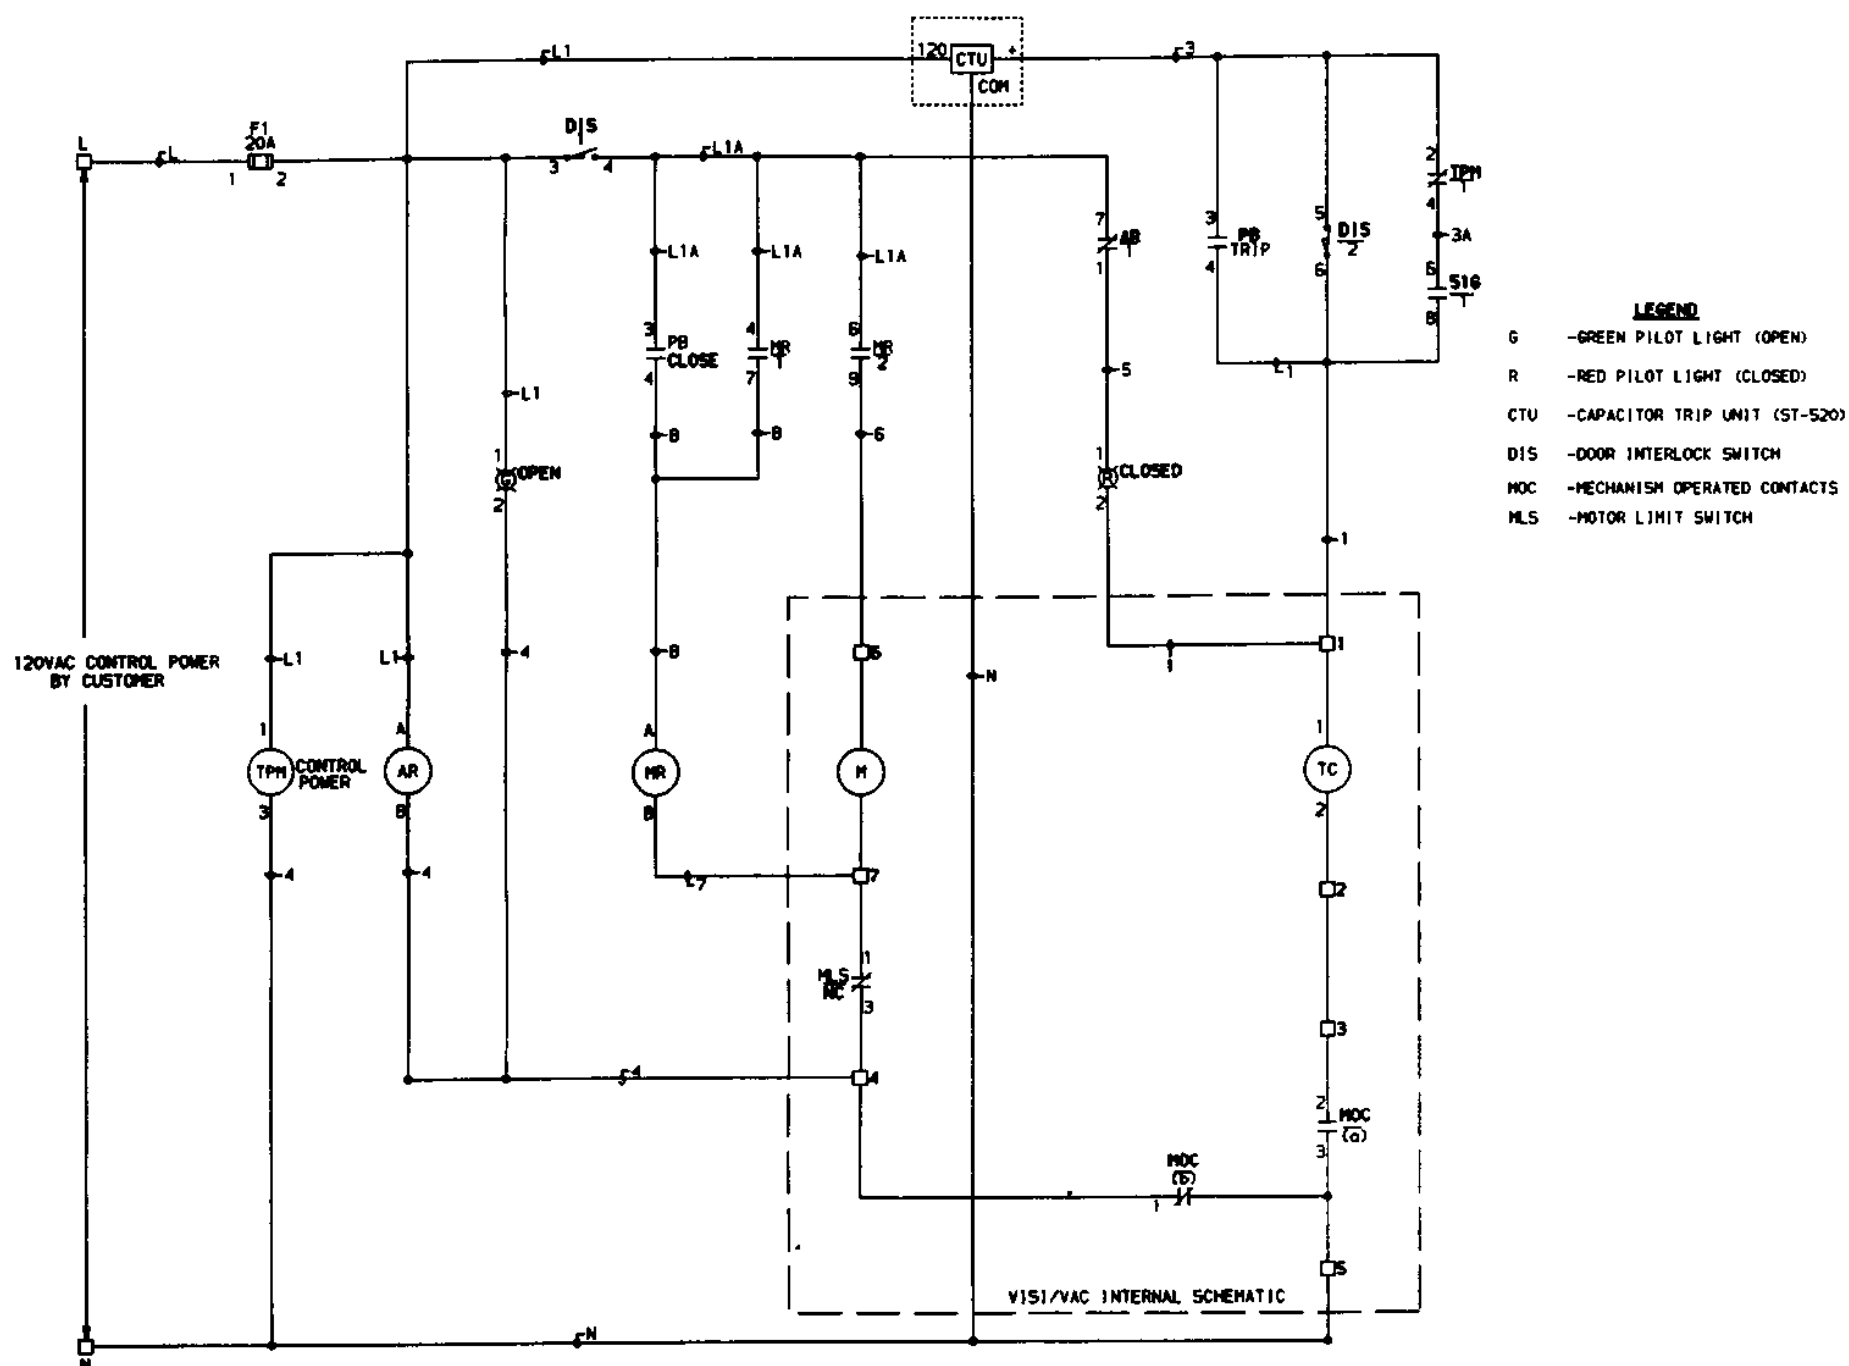

Figure 5a
4. FIGURES 5A AND 5B SHOW TYPICAL SCHEMATIC WIRING DIAGRAMS FOR THE VISI/VAC CIRCUIT INTERRUPTER. REFER TO SPECIFIC JOB DRAWINGS FOR ACTUAL WIRING OF THE DEVICE IN YOUR APPLICATION.